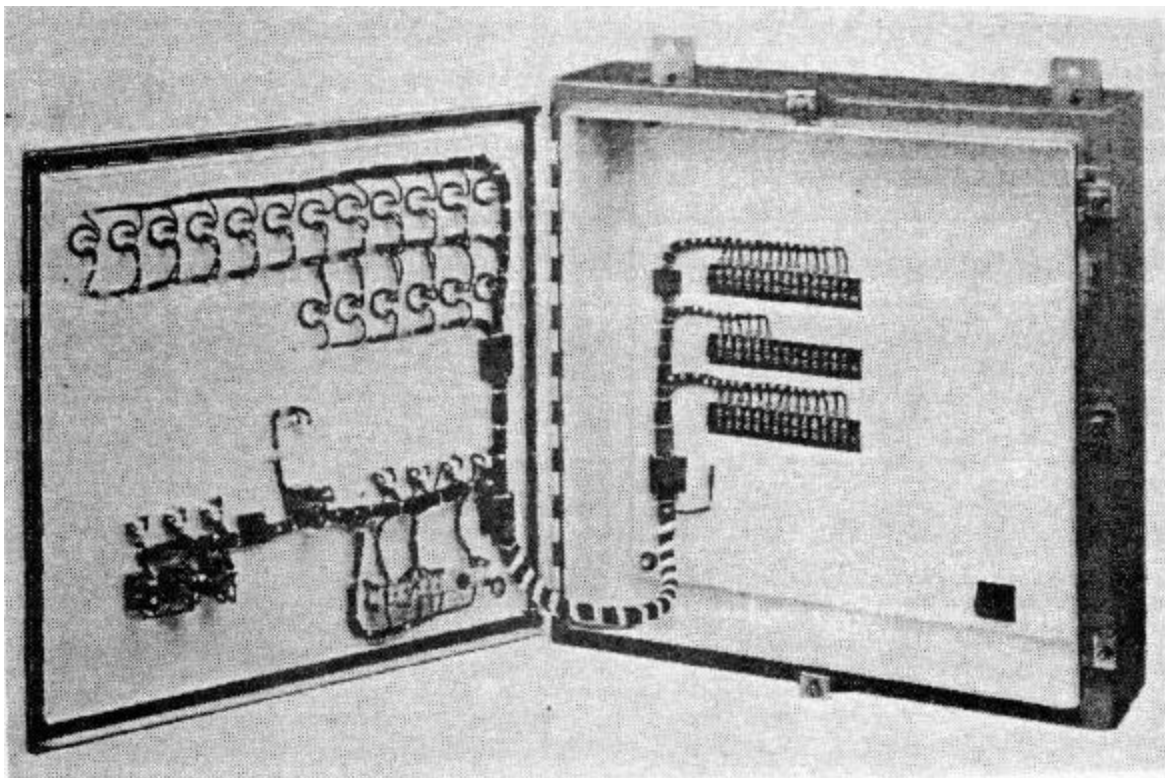

Figure 1-12. Interior View of 18 Line Repeater Cabinet
- 1.22 Figure 1-12 shows the interior of the 18 line repeater cabinet.